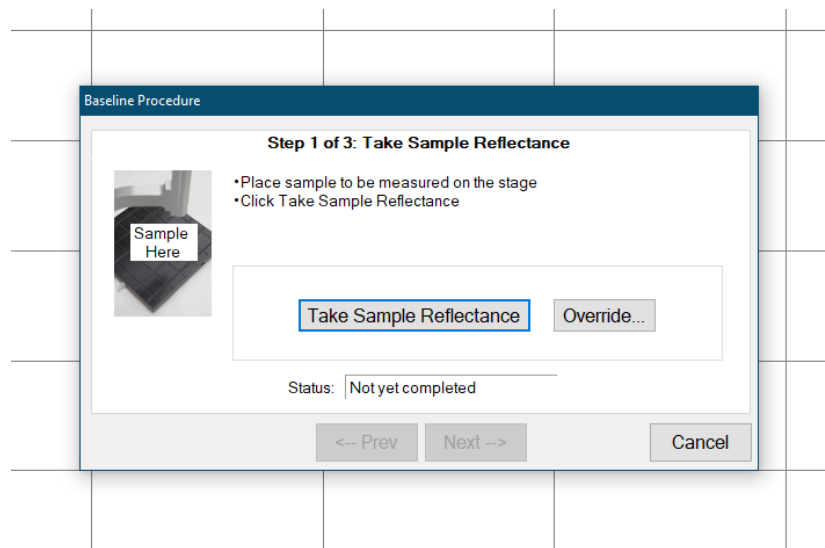

Figure 8. Step 1 of Baseline Calibration: Take Sample Reflectance
7. Click “Take Sample Reflectance” as shown in Figure 8 to measure the clean Si wafer. Then, click “Next.”